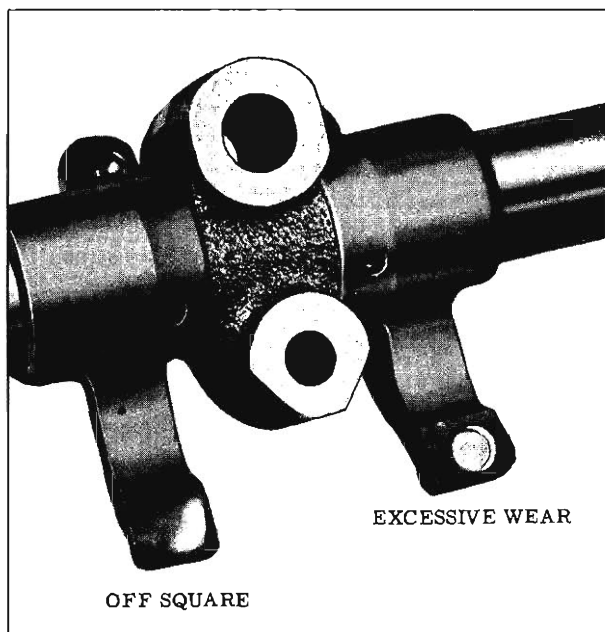

Fig. 3-20 Rocker Arm Wear Patterns
- b. Observe rocker arm pad for excessive wear or excessive off square. Replace as required. (Fig. 3-20)